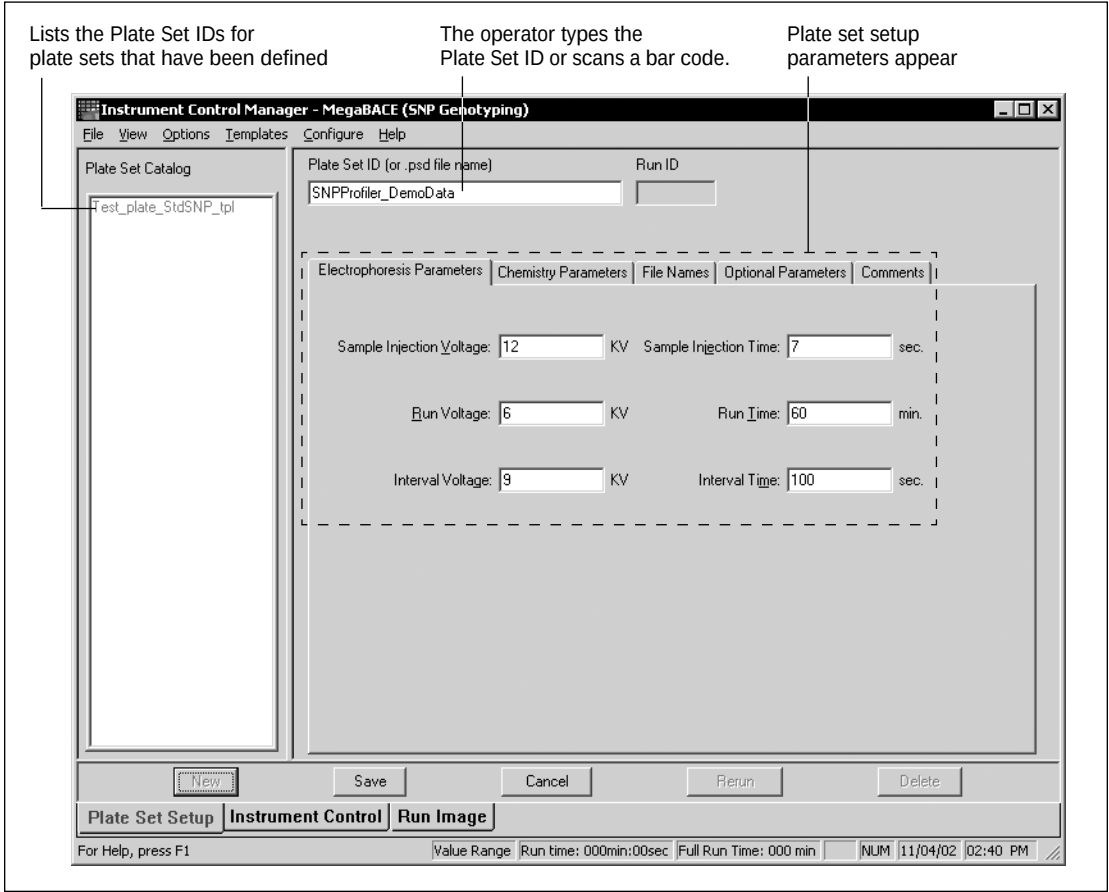

Figure 12-1. The Plate Set Setup window displays the parameters shared by all the plates in the plate set.
- The Plate Set Setup window (figure 12-1) to create the definitions before the run. The operator can select the precreated plate set definitions at the start of the Inject Samples and Run protocol.
You or an operator can create the plate set definition before the run using the Plate Set Setup window (figure 12-1). To do this, you or the operator can—
You can use the Plate Set Setup window (figure 12-1) to create a plate set setup template. To do this—
1. In the Instrument Control Manager, click the **Plate Set Setup** tab to display the Plate Set Setup window (figure 12-1).